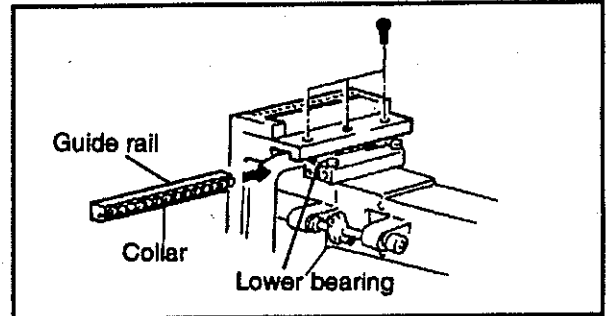

FIG.2
(2) While inserting the needle case guide rail into the case groove from the right side, set the guide rail into the clearance between lower bearings (Fig.2).
(4) Temporarily tighten three retaining screws (b) (Fig.2).
(6) Rotate the hand wheel. Move the needle case to align the center of the needle socket with the center of the needle socket holder. Secure the case with three retaining screws (b) (Figs. 2 and 5).